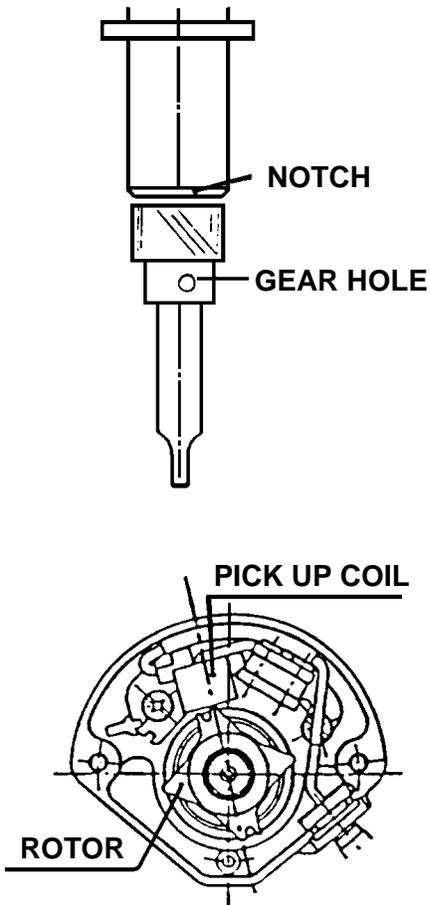

Figure 6.
- b. To remove and install the motion sensor, use the same procedure described in Service Manuals for distributors with the exception of aligning the sensor drive gear hole (not roll pin hole) with the notch in housing (Figure 6) when installing sensor with engine disturbed.